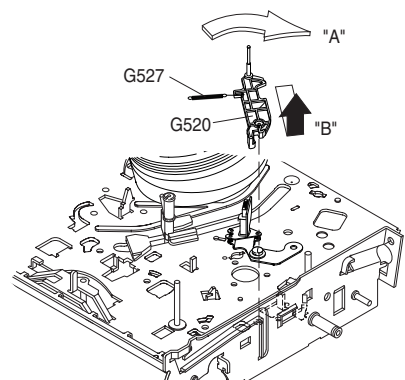

Fig. 20
- Unhook the spring G527 (Fig. 20).
- Turn the tape reverse guide lever (G520, Fig. 20) in direction of the arrow "A" then remove it in direction of the arrow "B".